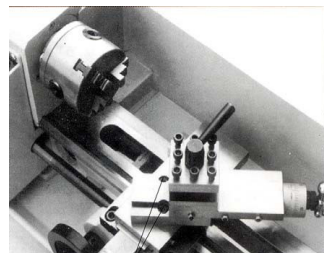

Fig.8 Compound Rest Adjustment
Loosen the two screws as shown in (A) of Fig.8. After you have obtained the angle you demand, please do not forget to tighten them.